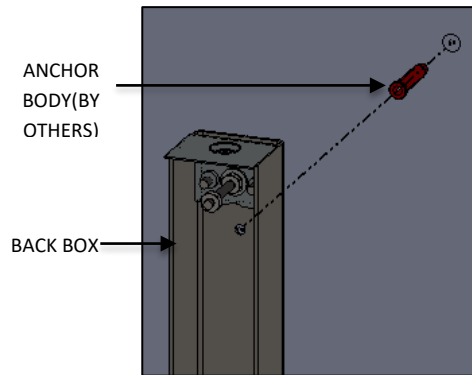

FIG. 10- ANCHOR BODY INSTALLATION
- Once the Mounting Points are marked remove the BACK BOX and insert the appropriate ANCHORS (by others) per wall material as shown in FIG.10.